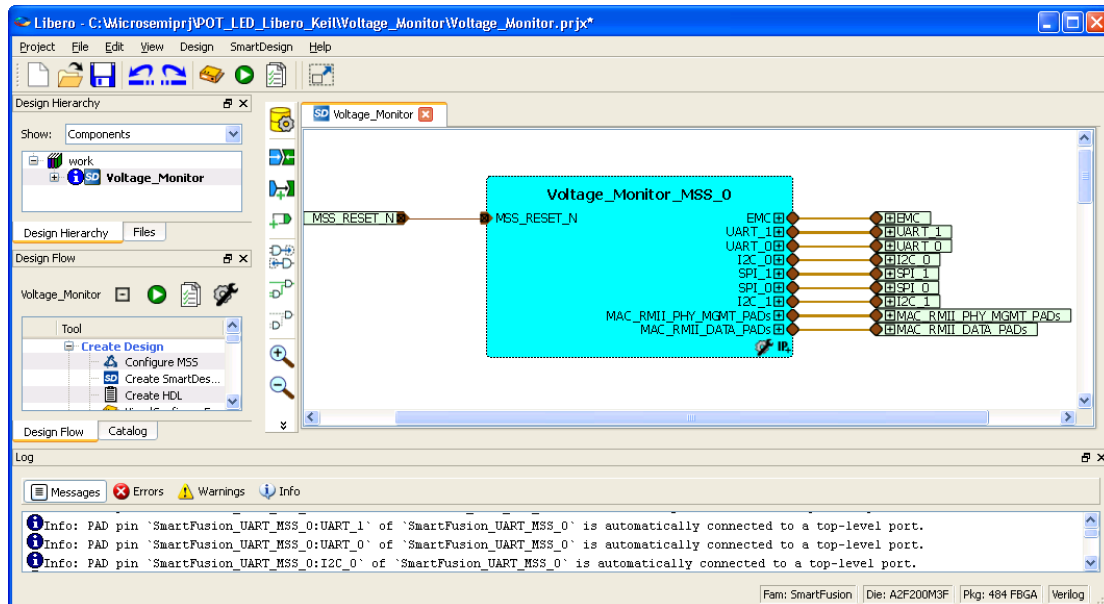

Figure 3 · The Libero Window After Completing New Project Wizard
- The project is created and the Libero SoC window is displayed as shown in Figure 3 . The SmartDesign "Voltage_Monitor" is created with the instantiation of the MSS component.